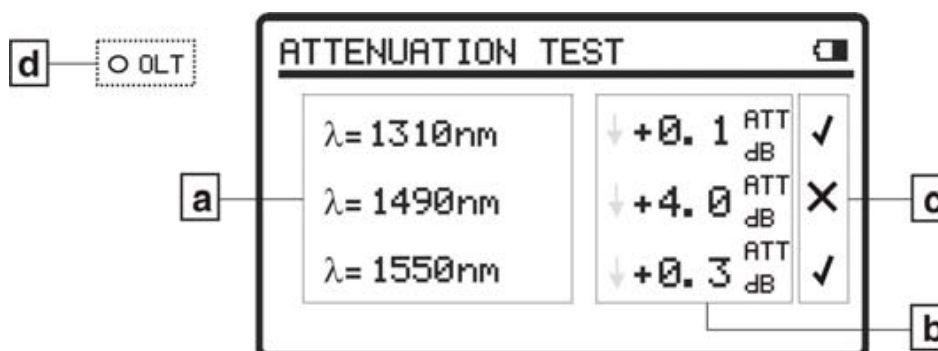

Figure 7.- ATTENUATION TEST Screen.
- 3 Press **SEL**  to get into this function (see figure 7).